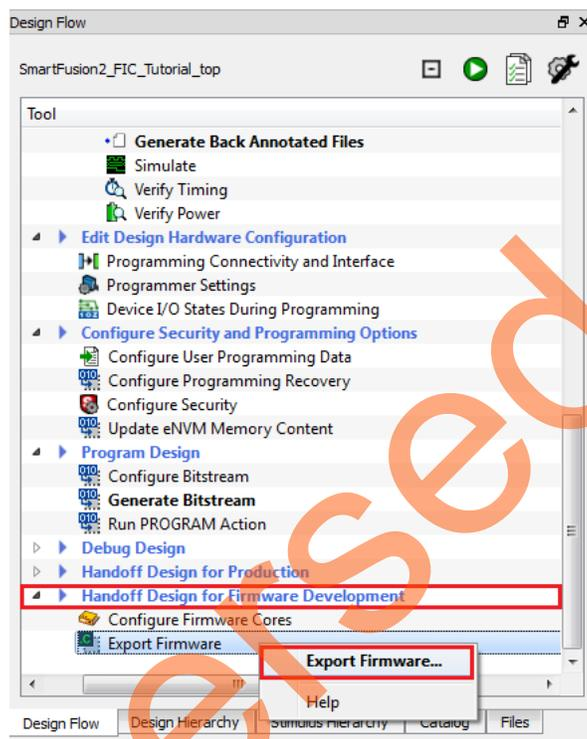

Figure 38 • Handoff Design for Firmware Development
2. Right-click and select **Export Firmware...** as shown in Figure 38. The Export Firmware dialog box is displayed.